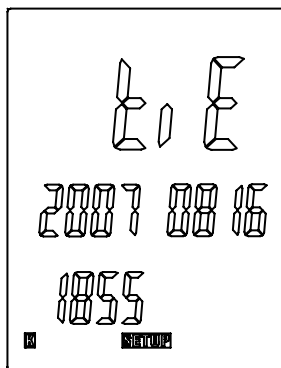

Fig. 3
1. While in Setup mode, scroll to the **time** setting option screen. The primary display shows the year; the secondary display shows the month and the day; and the tertiary display shows the hour and minute. In Fig. 3, the display shows the date and time "2007-08-16 18:55". If no adjustment is needed, press **Enter** button to exit time setting.